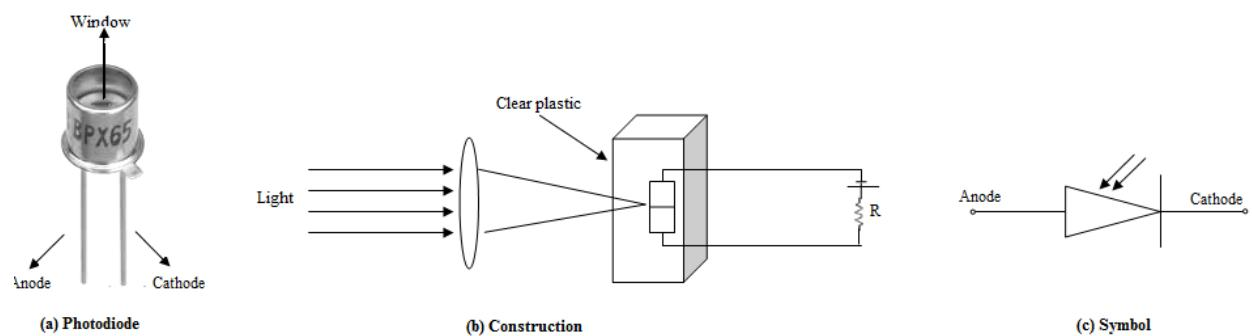

Figure 1.12
1.7.1 Construction and symbol: Photo diode consists of a P-N junction embedded in a clear plastic capsule (Figure 1.12) radiation is allowed to fall upon one surface across the junction. The remaining sides other sides are either painted black or enclosed in a metallic case. Dimension of
photodiode is only of the order of few mm. The schematic symbols for a photo diode is represented in Figure 1.12(c). The inward arrows represent the incoming light.